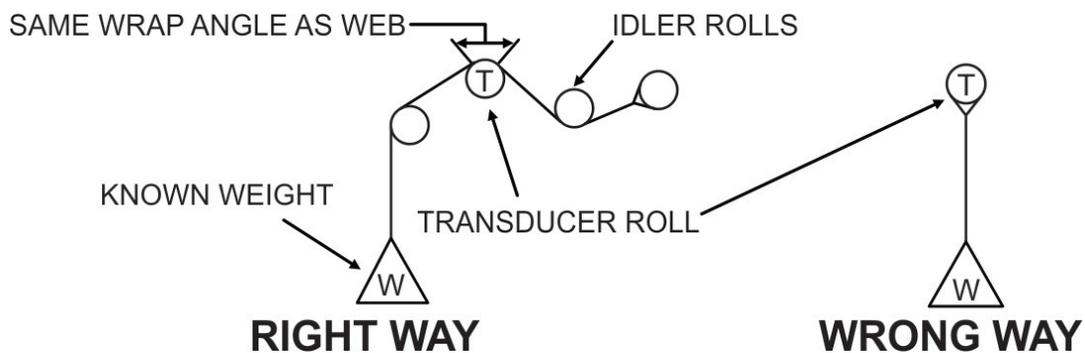

FIGURE 10 - Web Path
- CALIBRATION:** During the calibration the transducer(s) should be loaded. Fasten one end of the rope in the machine and thread the other end around the transducer roll in exactly the same path the web will take. Be sure the rope does not pass around any driven rolls, drag bars, or anything else that can affect tension. Ideally the rope should hit an idler roll immediately before and after the tension sensing roll. It does not have to pass over any other rollers once these three are strung. Attach the weight to the free end of the rope as shown in Figure 10. The weight should not touch anything. **Wait for the weight to stop swinging.**